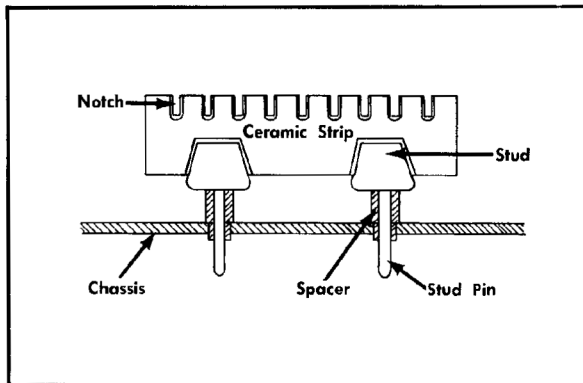

Fig. 4-6. Ceramic terminal strip assembly.
**Ceramic Terminal Strip Replacement.** A complete ceramic terminal strip assembly is shown in Fig. 4-6. Replacement strips (including studs) and spacers are supplied under separate part numbers. However, the old spacers may be reused if they are not damaged. The applicable Tektronix Part Numbers for the ceramic strips and spacers used in this instrument are given in the Mechanical Part List.